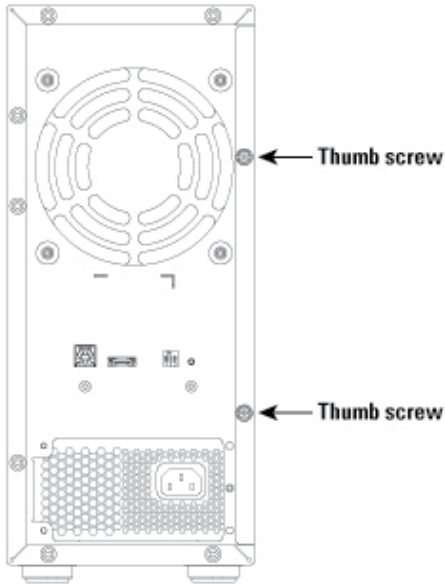

Fig. 10a
3. Remove the left side panel from the case by loosening the thumb screws on the rear side (fig. 10a and b).